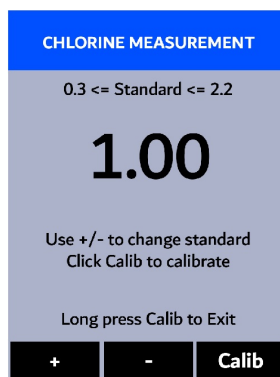

Figure 42.
11. Use + (**<**) and - (**>**) to adjust the chlorine concentration to the value of the known chlorine solution (Figure 42).